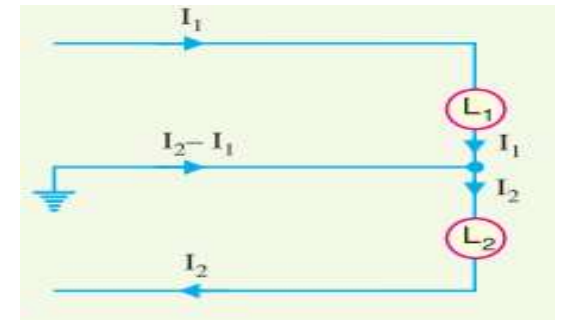

Fig.3.
3. If the load on the negative outer ( $I_2$ ) is greater than on the positive outer ( $I_1$ ), then out of balance current  $I_2 - I_1$  will flow in the neutral wire from supply end to load end as shown in Fig.3.